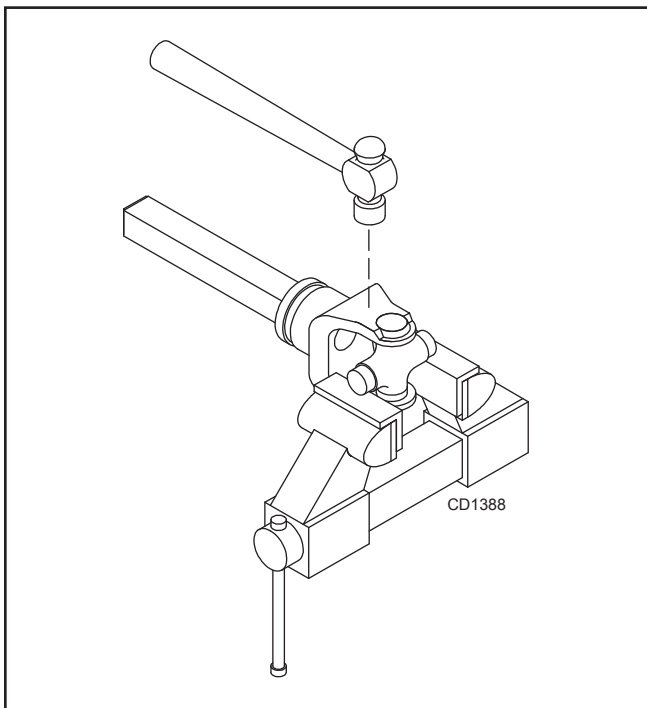

Figure 27.
4. Place universal cross in vise as shown in Figure 27 and tap on yoke to remove cup. Repeat Step 3 for final removal. Drive remaining cup out with a drift and hammer.